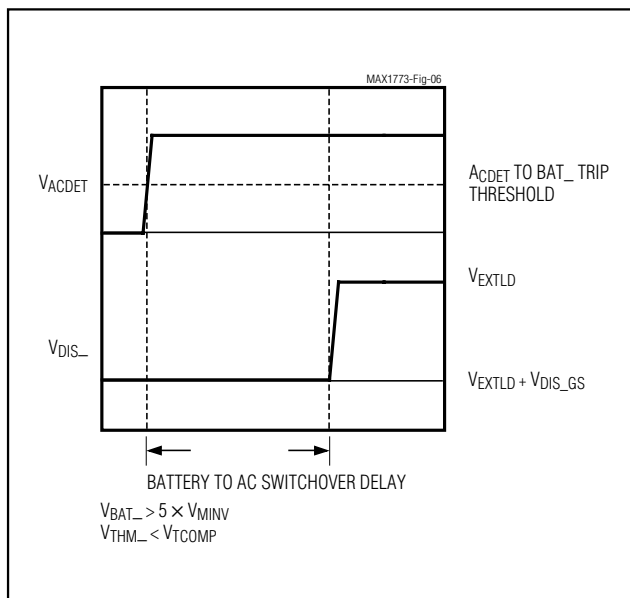

Figure 6. Battery to AC Switchover Delay
**Note 10:** Battery to AC Switchover Delay begins when VACDET rises above its threshold and ends when  $V_{DIS\_}$  of the battery being switched from has begun to rise (Figure 6).